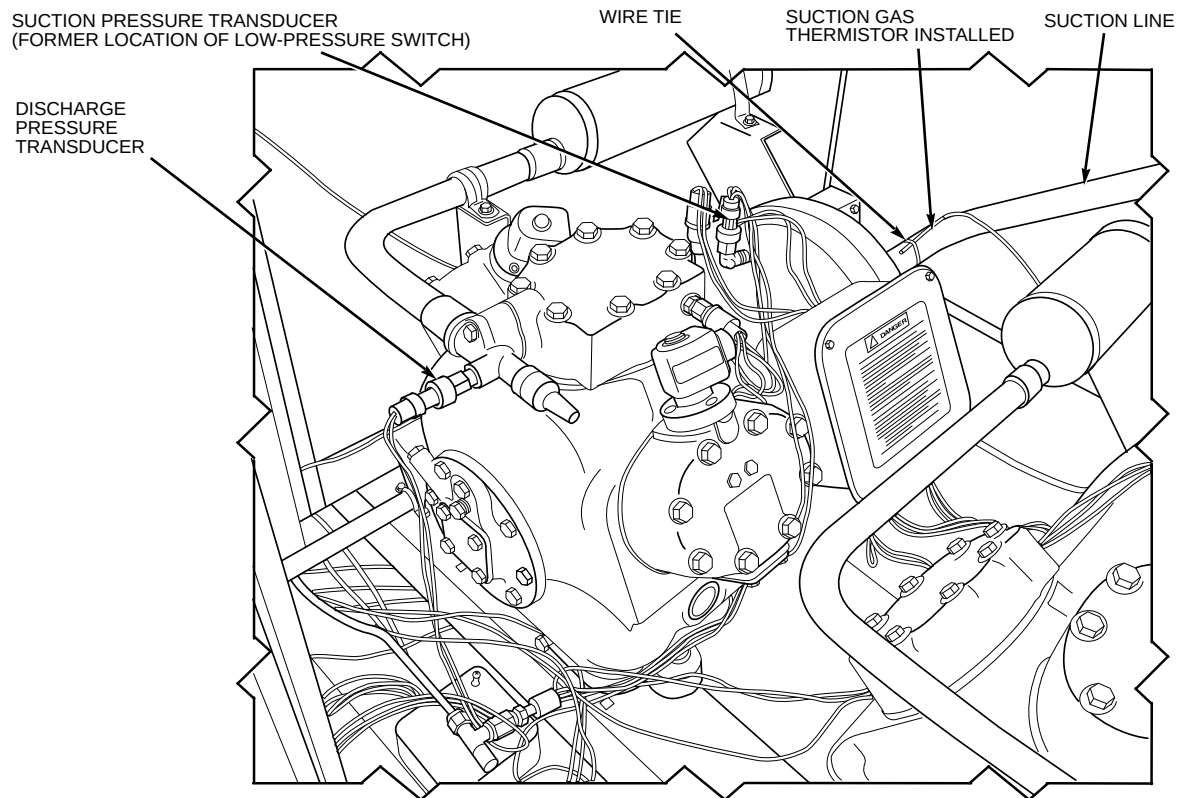

Fig. 13 — Transducers and Thermistor Installed (024-030 Units)
1. Lay the thermistor flat and in parallel with the suction line between the compressor suction flange and the first bend in the line (See Fig. 13).